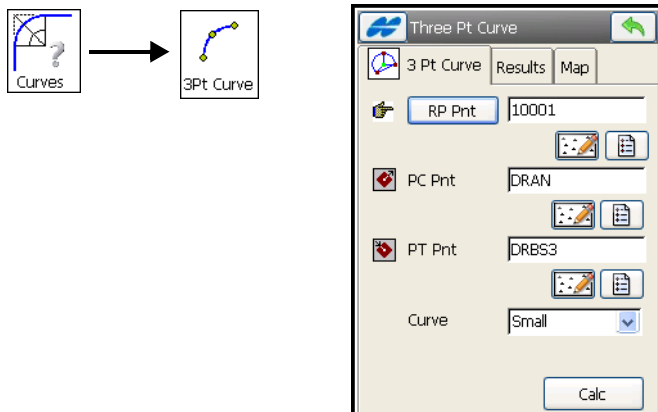

Figure 10-10. Three Pt Curve
1. On the *Three Pt Curve* screen, select the initial data for the task. The screen changes its appearance, depending upon the first point chosen (Figure 10-10 on page 10-10).